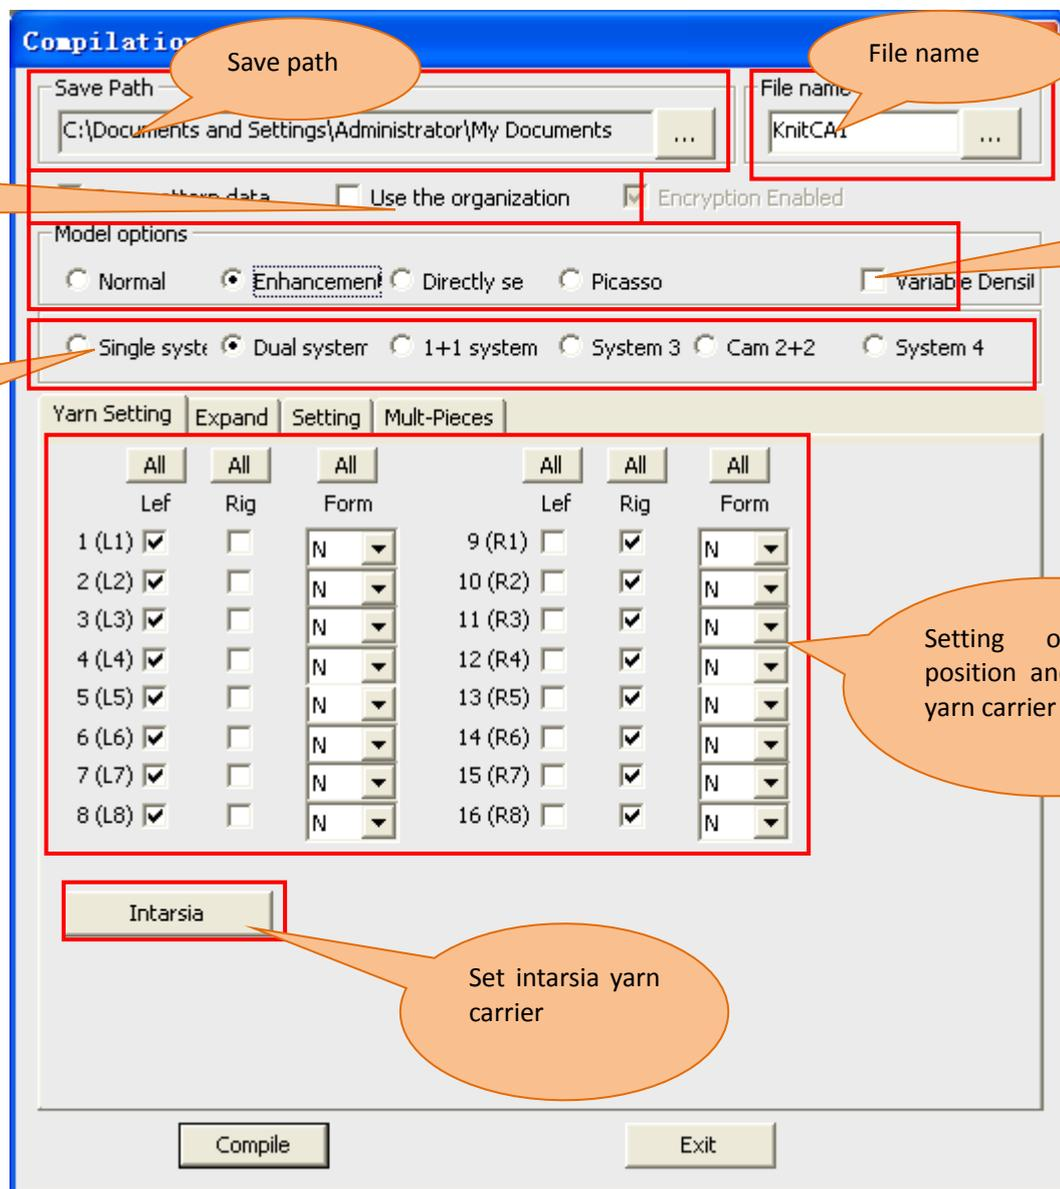

Fig. 1 "Compile and Save" Dialog box
- Click to the button  in the Toolbar, compile dialog is shown as below (Fig. 1).
➤ Click the Expand page in the window of Fig. 1, and then the dialogue window in Figure 2 appears.